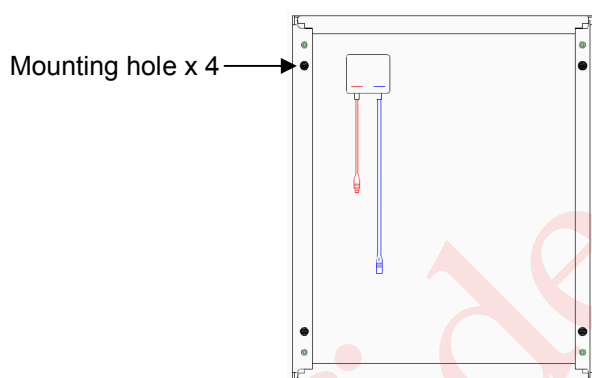

Fig.7 Mounting hole
- The PV module has four $\phi 10$ mm holes on the long edge of its frame (Fig. 7) for mounting purpose. Please refer to Appendix 1.